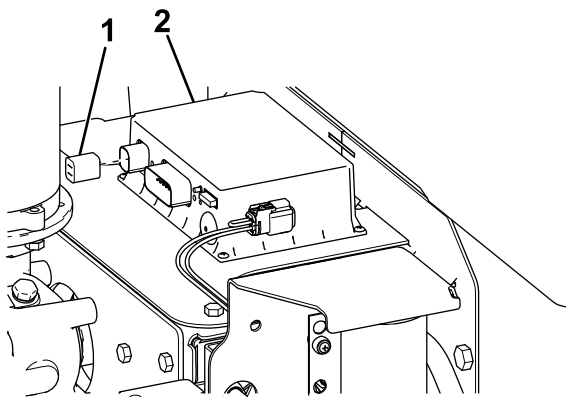

**Figure 25**
13. Bring the rear cover close to the spreader and route the pump connector through the previously installed grommet (Figure 25). For the pintle chain Forge spreaders, route the 45 cm (18 inch) hose from the spray nozzle through the grommet as well.